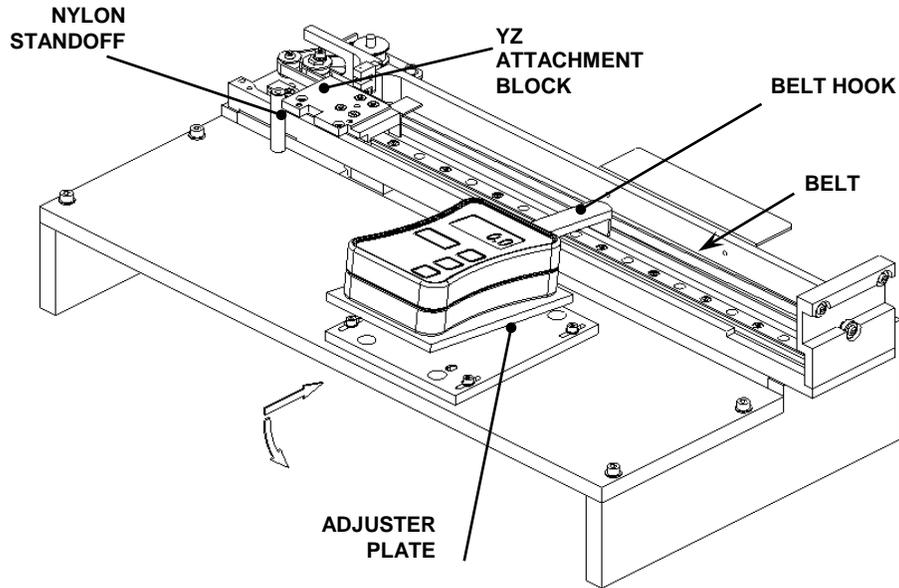

Figure 8-24: Positioning Force Gauge
- Slide the YZ Attachment Block over to the left until it touches the nylon standoff. To reposition the Force Gauge on the fixture, angle the gauge assembly and push it forwards and down, so the belt hook slightly deflects the belt and the dowels on the gauge assembly fit into the adjuster plate of the fixture (Figure 8-24).